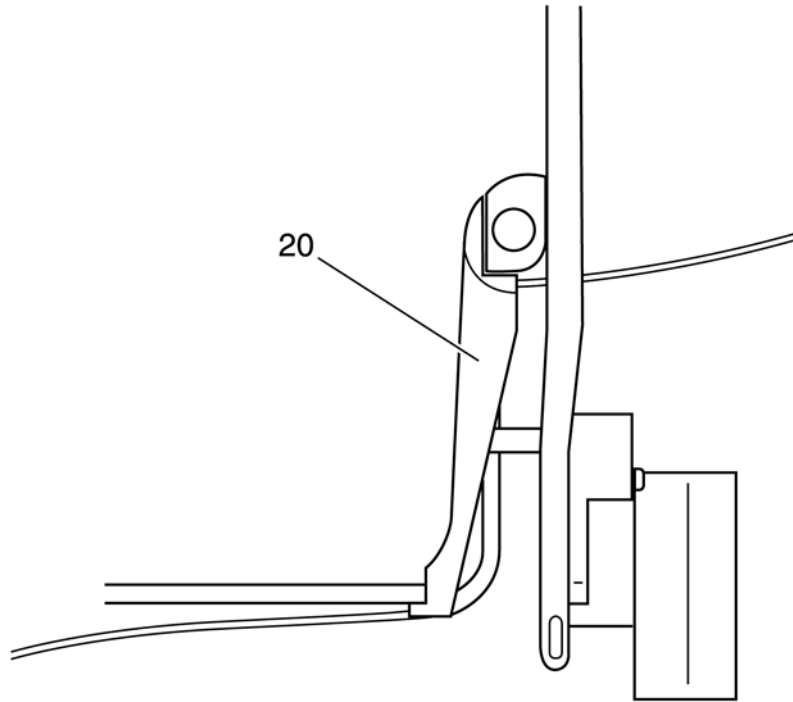

Fig. 15
- Remove buttonhole sensor's cable guide 20 (fig. 15).